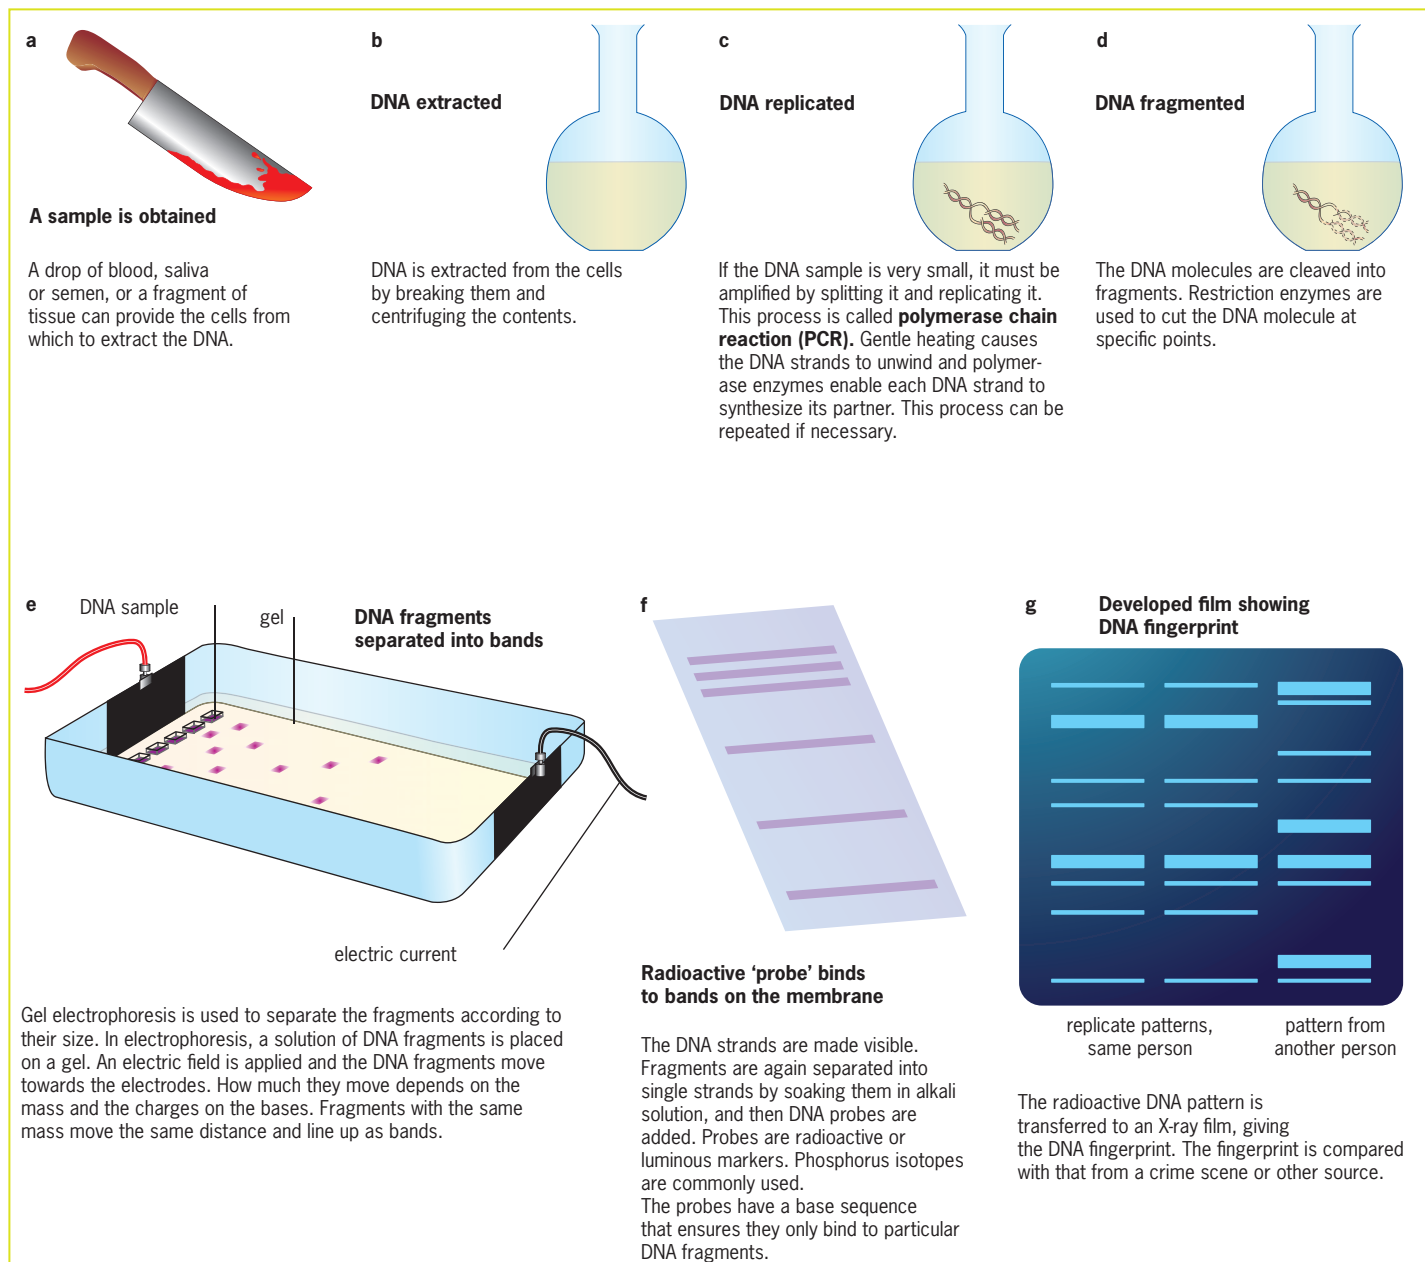

Figure 2.8.6 DNA profiling.
DNA profiling does not compare the entire DNA molecule of the 'suspect' with the entire DNA molecule in question. The DNA molecule is too long and complex for this. However, it has particular sections that are more useful than others. The process then is to break the DNA molecules into fragments and to separate these fragments according to the sequence of bases they contain. The process of making a DNA profile is outlined in figure 2.8.6.
A DNA profile does not deliver absolute certainty, but it does produce a high chance of a correct conclusion. The more probes used (see figure 2.8.6), the more certain the result. The first successful criminal prosecution based on DNA evidence was that of Colin Pitchfork in England in 1987. After two teenagers were murdered in a village in England, police requested the entire male population to submit to DNA testing. Colin Pitchfork tried to get a friend to submit a blood sample for him, but then confessed when this did not work. He was found guilty based on DNA evidence.
- 10 Refer to figure 2.8.6 for this question.